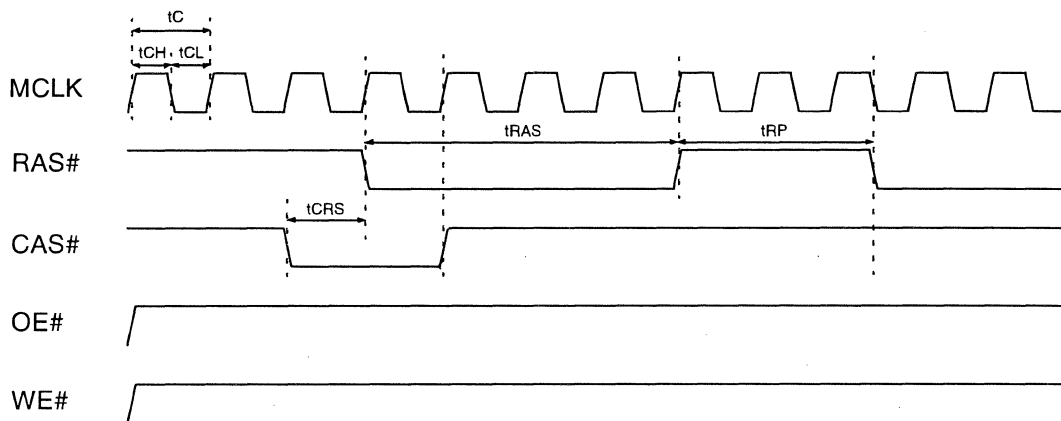

Figure 7-13. Refresh Cycle Timing
- Refresh Cycle Timing, see *Figure 7-13*.